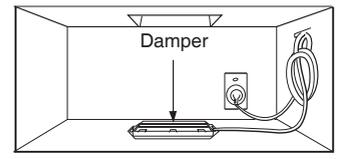

Figure 33
4. Roof venting installation: See Figure 33. Install ductwork through the vent opening in the upper cabinet. Use caulking gun to seal the exterior roof opening around the exhaust cap. See Figure 7 on page 7.